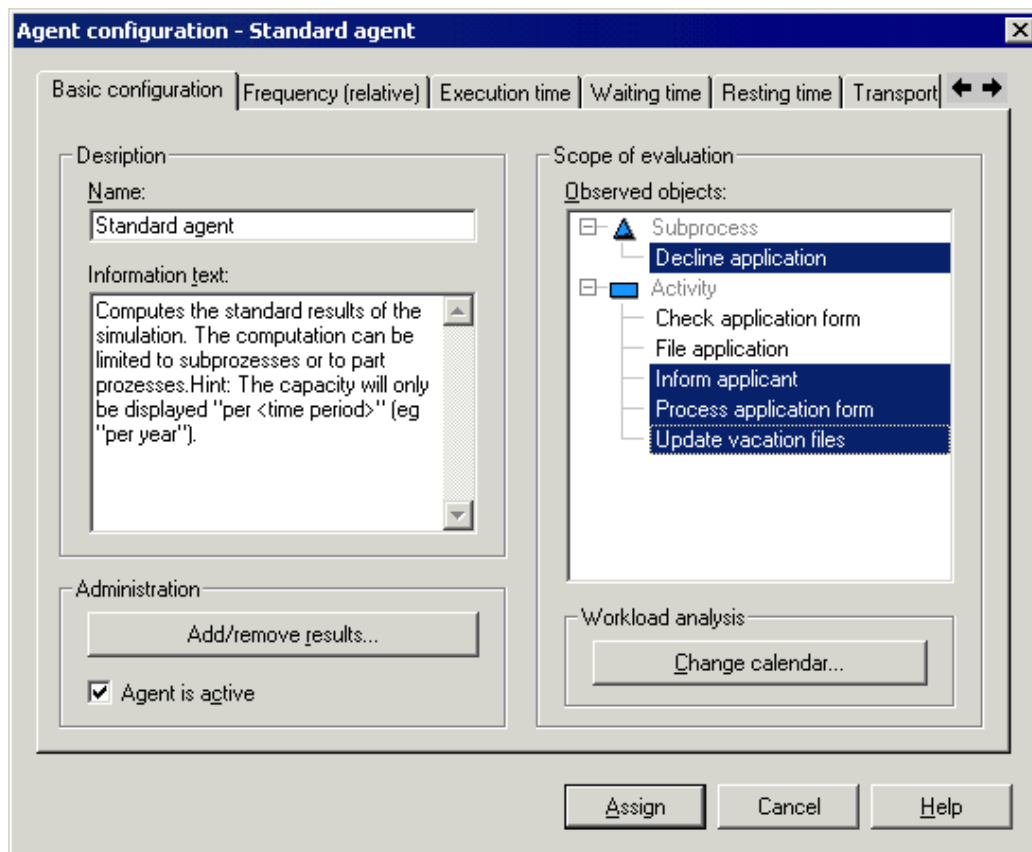

Figure 342: Configuring agents (example)
3. Click on the "**New**" button. The window "Agent configuration - *<Name of Agent>*" (see fig. 342), in which you can assign tasks to the new agent, will now be displayed.
"Settings"	opens the window "Agent configuration - &lt;Name of Agent&gt; " (see fig. 342). You may then change some of the existing settings or add new tasks for the agent to carry out.
An agent's behaviour is designed in the window "Agent Configuration - <Agent Name>" (see fig. 342). The window contains a tab for **"Basic configuration"** (see chap. 4.8.3.1, p. 397) and can contain tabs for the Evaluation Results (see chap. 4.8.4, p. 400) the agent is to calculate.
It is possible to specify which modelling objects the agent should take into account when calculating results and for which periods of time the agent is to calculate the results in the "Basic configuration" (see fig. 342) tab.
Define the results the agent is to animate in the "Animation" (see chap. 4.8.5.2, p. 412) tab in the "Agent configuration" (see fig. 342) window.
Within the "Number of changes in responsibility" (see chap. 4.8.5.3, p. 413) tab, within the window "Agent configuration" (see fig. 342) you must define whether the changes of responsibility are to be calculated for performers, resources or for other classes of your application library.
Specify whether the agent should calculate the relative or the absolute frequency of occurrence in the "Frequency" (see chap. 4.8.5.4, p. 413) tab in the window "Agent Configuration" (see fig. 342). You can also extend the settings concerning result calculation there.